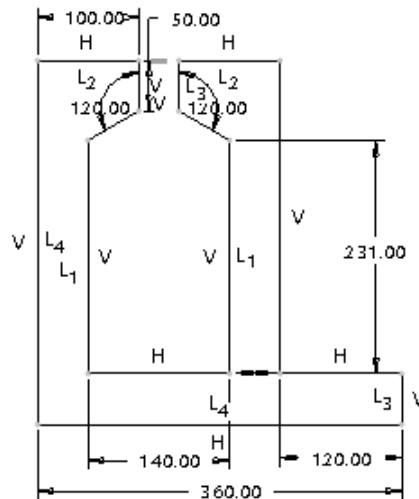

Figure 2-32 Complete sketch with dimensions and constraints
4. When all dimensions are modified, choose the **Regenerate the section and close the dialog** button from the **Modify Dimensions** dialog box; the message **Dimension modifications successfully completed** is displayed in the message area. The completed sketch is shown in Figure 2-32.